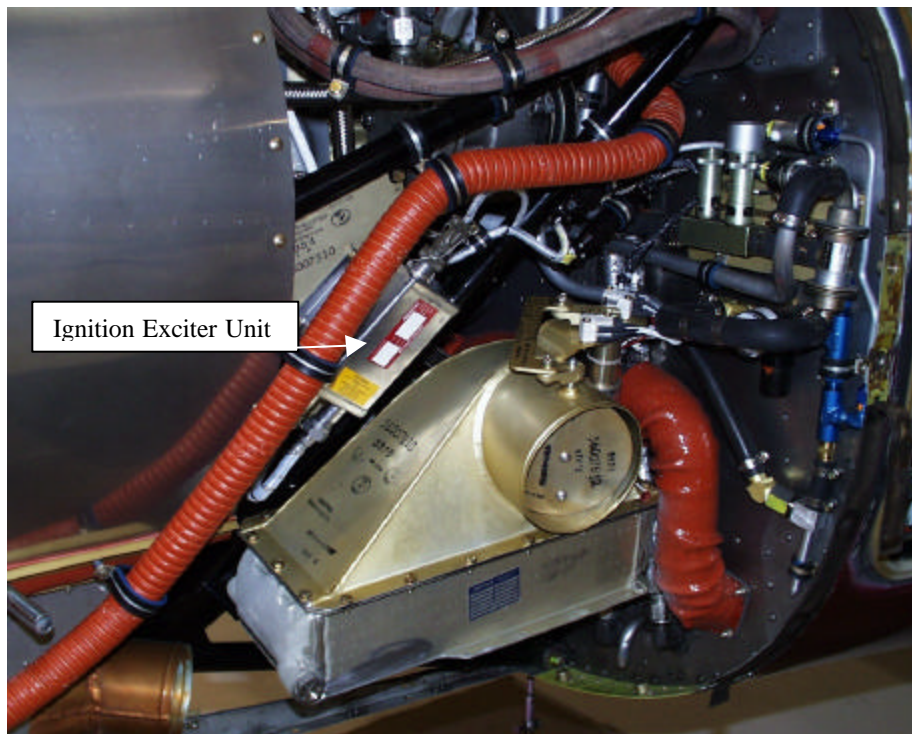

Figure 8. Location of Ignition Unit
7. Route another 18 gauge wire from the auto ignition pressure switch back to the ignition unit pin 1. The ignition unit is located on the left aft part of the engine (Figure 8).